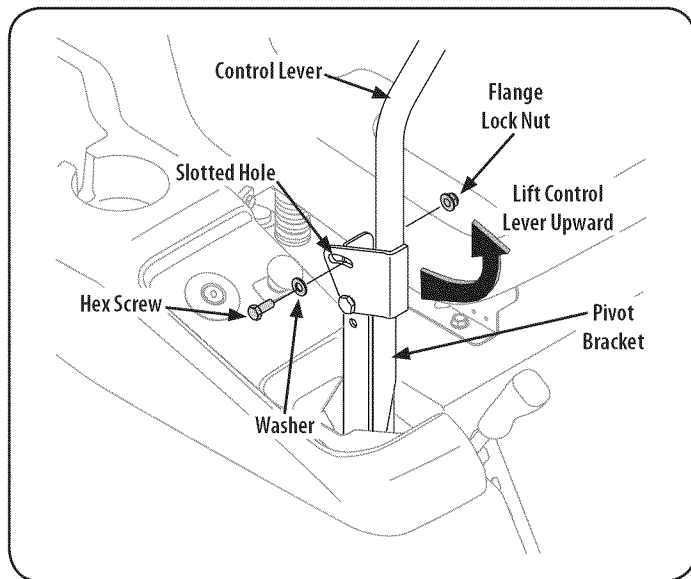

Figure 4
2. Lift and swing that control lever upward until the slotted hole in the lever bracket aligns with one of the holes in the pivot bracket. See Figure 4.
3. Slide the flat washer onto the hex screw. From the outside, insert the hex screw with washer through the control lever slot and the hole of the pivot bracket. Secure with the flange lock nut. See Figure 4.